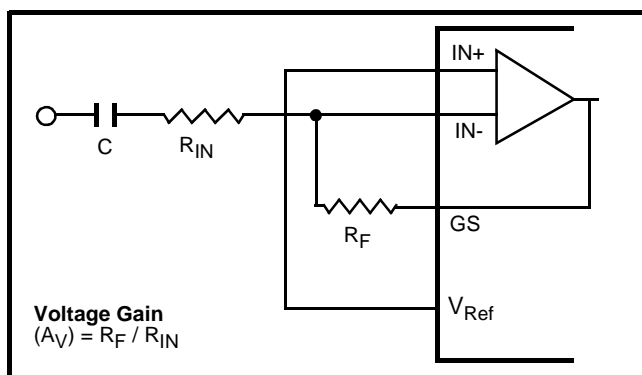
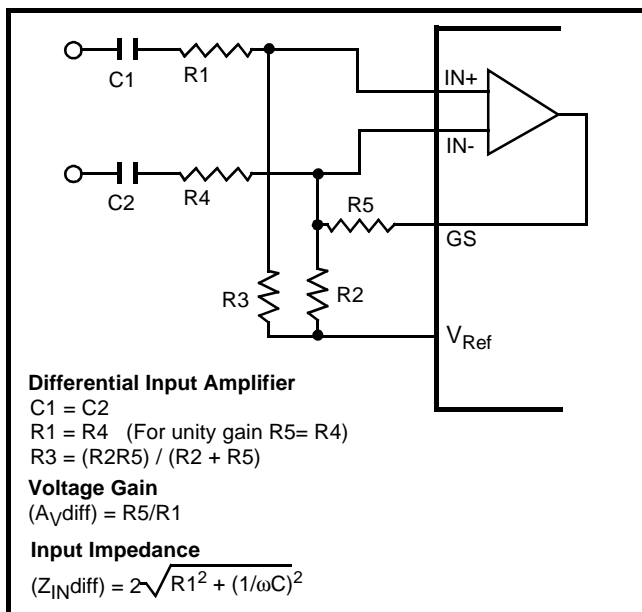

Figure 6 - Single-Ended Input Configuration
Figure 7 - Differential Input Configuration
The MT8843 provides an input arrangement comprised of an operational amplifier and a bias source ( $V_{Ref}$ ); which is used to bias the opamp inputs at  $V_{DD}/2$ . The feedback resistor at the opamp output (GS) can be used to adjust the gain. In a single-ended configuration, the opamp is connected as shown in Figure 6. For a differential input configuration, Figure 7 shows the necessary connections.